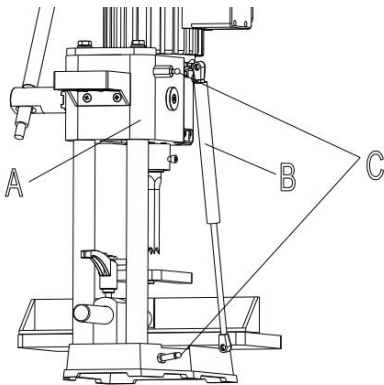

Fig. 4
3.Make sure head (A) Fig.4, is held in the up position and assemble the gas spring (B) to the two fittings (C), one located on the column and the other on the back of the head.